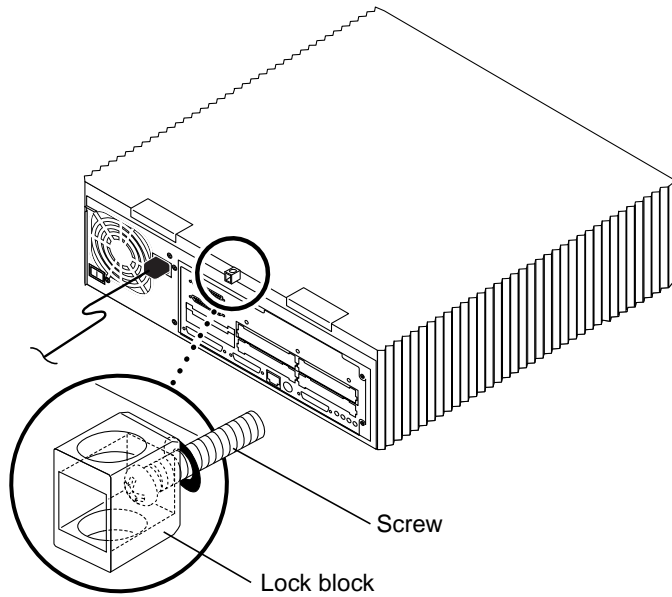

FIGURE 7-1 Location of Lock Block
2. Using a number 2 Phillips screwdriver, loosen the screw securing the lock block (if installed) to the cover and back panel. Remove the lock block (FIGURE 7-1).